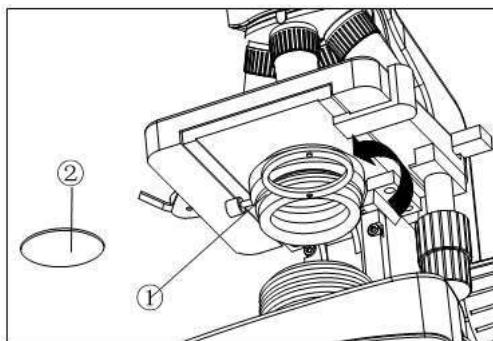

Fig.7
2.2.4 Installing the color filters (Fig.7)
1. Turn the condenser bracket ① out at the direction of arrow in Fig.7
2. Put the required filters ② into the holder on the bracket, and then turn the bracket back to the right position.